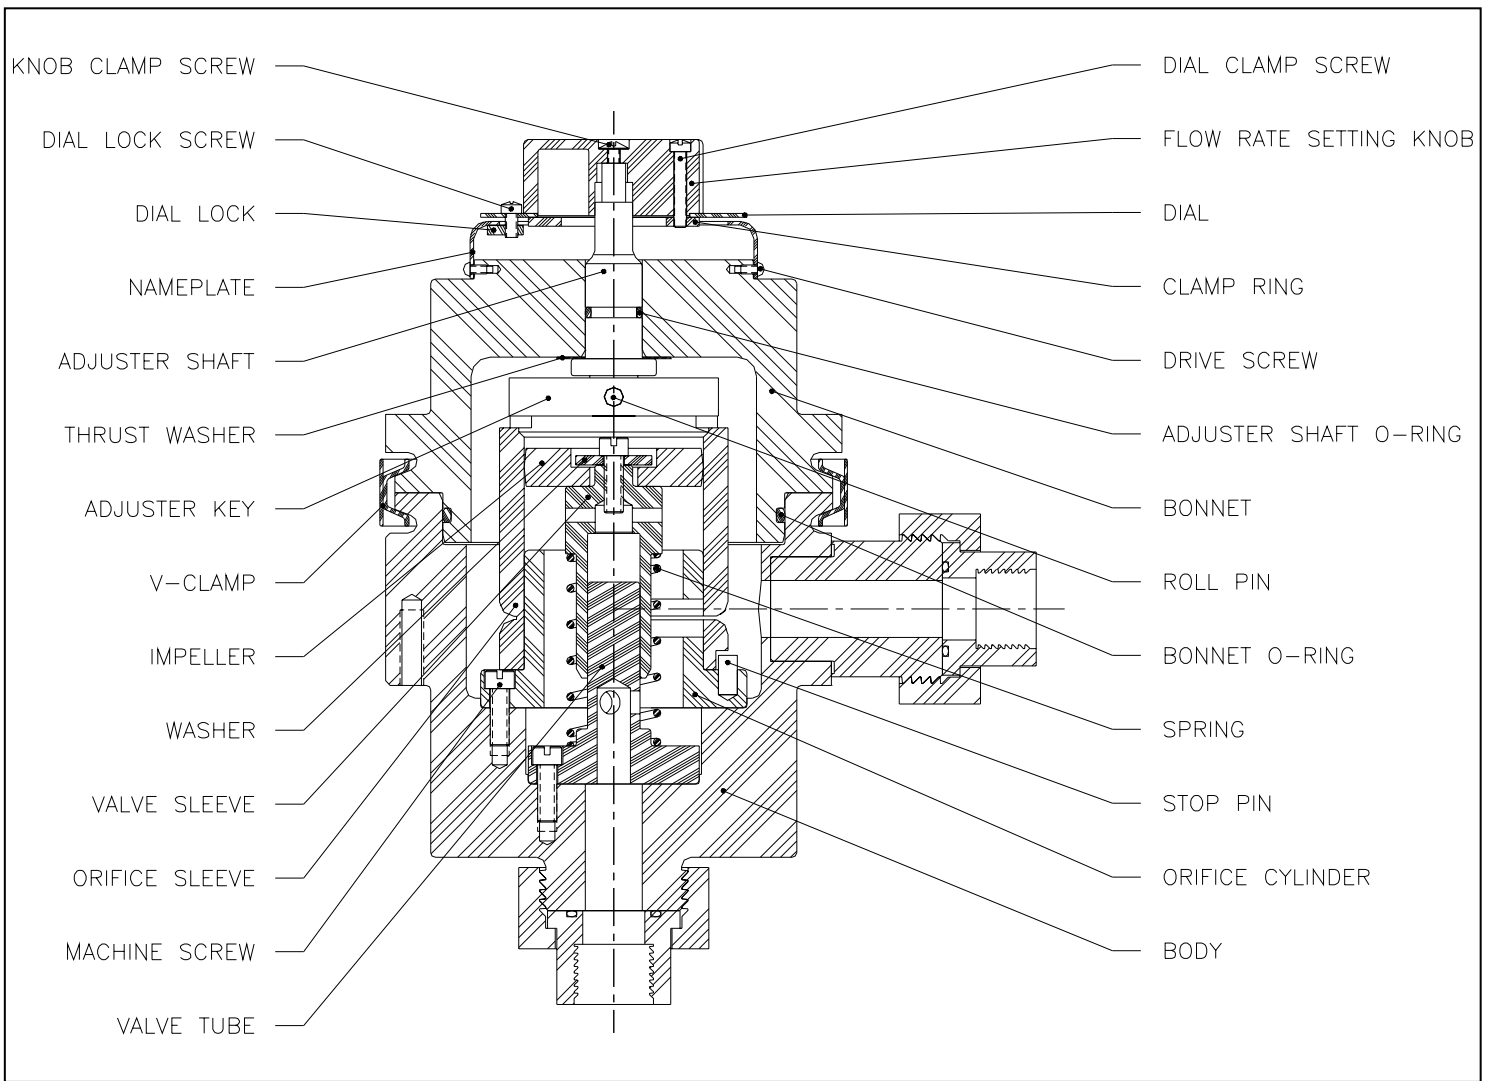

Figure 1
Note: If the flow rate setting knob does not turn, loosen the dial lock screw. (See fig. 1)
- d) Lower the bonnet slowly, at the same time turning the flow rate setting knob until the key on the end of the adjuster shaft fits into the slots in the orifice sleeve, and the shoulder on the lower face of the bonnet fits into the body. When properly assembled, bonnet will seat squarely on the body all the way around. (See fig. 1)
11. Replace bonnet O-ring, then lower the bonnet slowly, at the same time turning the flow rate setting knob until the key on the end of the adjuster shaft fits into the slots in the orifice sleeve, and the shoulder on the lower face of the bonnet fits into the body. When properly assembled, bonnet will seat squarely on the body all the way around. (See fig. 1) See that the pointer is in front where set point can be read. Replace and tighten the V-Clamp.